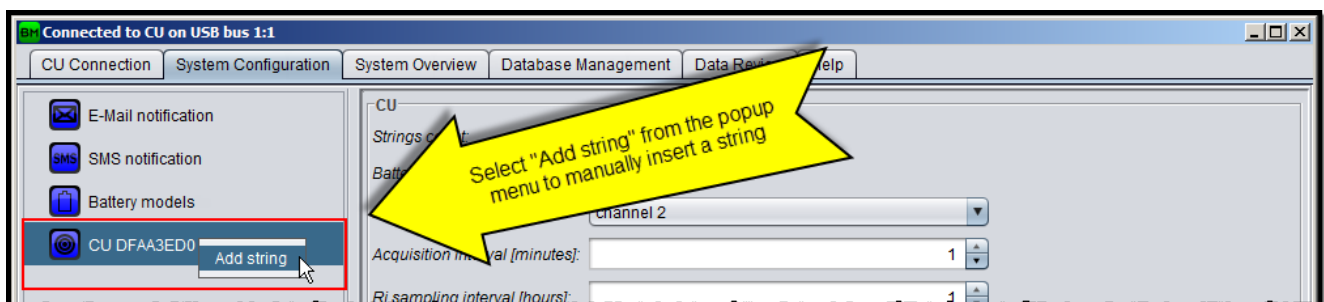

Figure 34: Manually add string
1. Right click on the CU icon to open the popup menu and select “**Add string**” as shown on Figure 34.